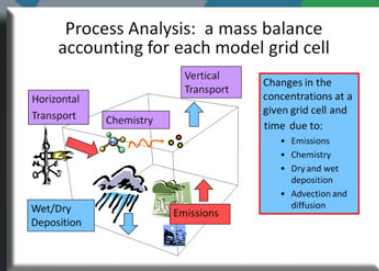

Figure 1. Important processes that determine the estimated concentration in an individual model grid.
Process analysis (PA) has been incorporated into current air quality models to examine model predictions in more detail. PA tracks the physical and chemical processes that affect concentrations estimated by the model, including advective and diffusive transport, gas and particle chemistry, emissions, and wet and dry deposition. PA also accounts for the influence of boundary conditions that are typically provided by a global chemical transport model. Simply put, PA is an hourly mass balance of each model grid cell (Figure 1).
Figure 1. A night sky observer in a non-urban setting sees less of the Milky Way as the light pollution from the distant city (aka a light dome) brightens the horizon and artificial light invades nocturnal wildlife habitat.